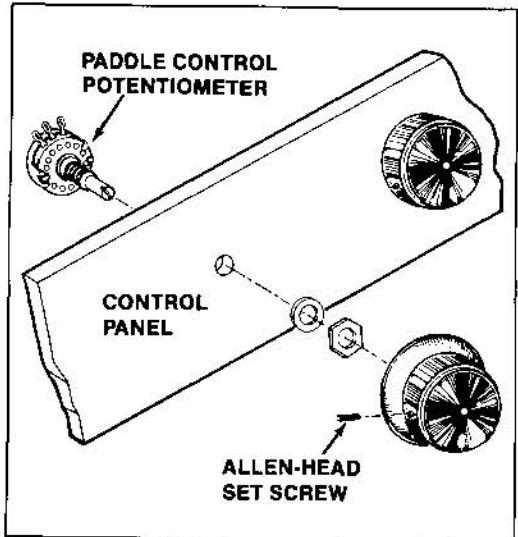

Figure 4-14 Paddle Control Removal
J. PADDLE KNOB (POTENTIOMETER) REMOVAL (See Figure 4-14)
If it does become necessary to replace this control, follow the procedure outlined in Figure 4-14.